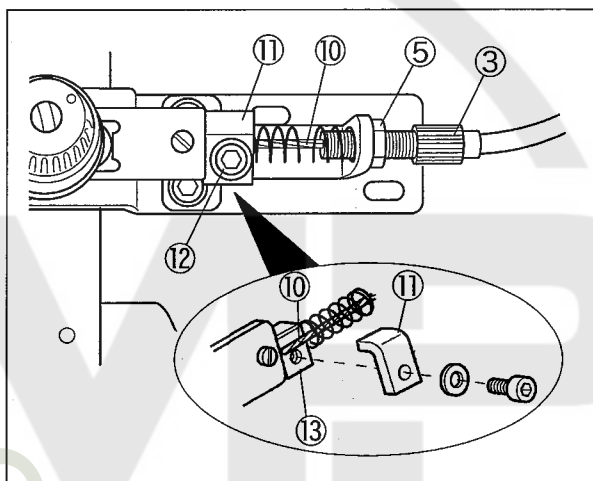

Fig. 2
4. Insert the wire ⑩ into the wire guide ③ which is on the tension releaser side (in front of the sewing machine). (Fig. 2)